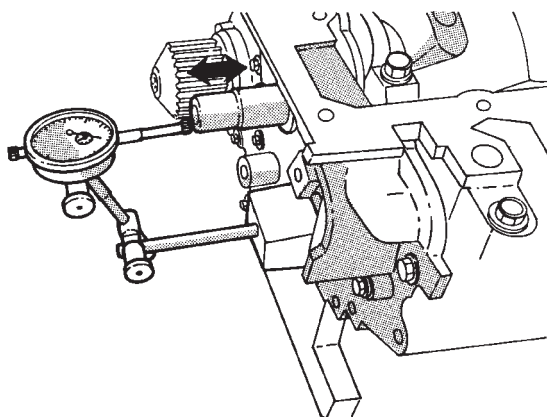

Fig. 15 Checking Crankshaft End Play—Typical
(1) Mount a dial indicator to front of engine, locating probe on nose of crankshaft (Fig. 15).
(2) Move crankshaft all the way to the rear of its travel.
(3) Zero the dial indicator.
(4) Move crankshaft all the way to the front and read the dial indicator. Refer to Crankshaft Specification Table for end-play specification.